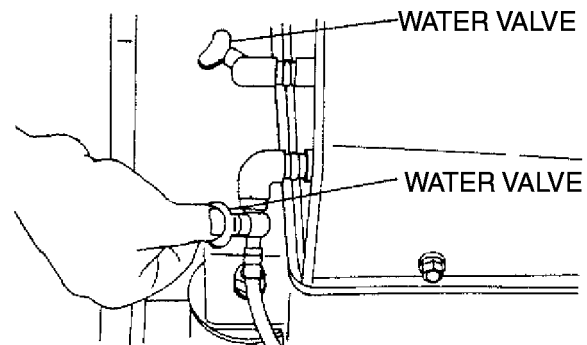

Figure 24. Water Valves
1. To operate water sprinkling system, turn on the front and rear water valves on the side of the roller. (Figure 24).